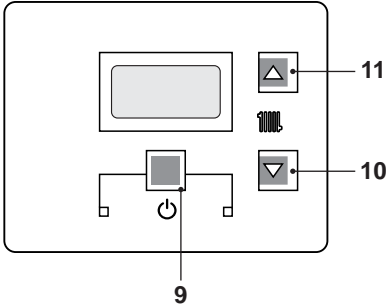
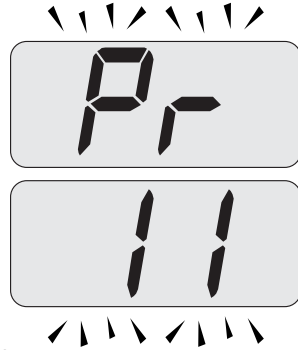
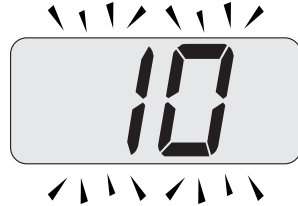

Fig. 7.24
Fig. 7.26
Fig. 7.27
- Enter in "programming mode" by pressing keys 9- 10- 11(Fig. 7.24) for 10 seconds at
- Scroll the various parameters using key-**s10** or **11** until the letters **Pr** that alternate with code **11** are displayed on the LCD display, indicating that "parameter 11"(Fig. 7.26) has been activated.
- Press keys **9** and **11**(Fig. 7.24) at the same time until the value of parameter **11** (**10=60** seconds) (Fig. 7.27) is displayed on the LCD display.
- By pressing key **9**(Fig. 7.24) confirmation of the inserted value is obtained.
- Press keys **9** and **10**(Fig. 7.24) at the same time to exit without changing the value (return to the parameters list Fig. 7.26)
- Press keys **9- 10- 11**(Fig. 7.24) at the same time for 10 seconds to exit the "programming mode".